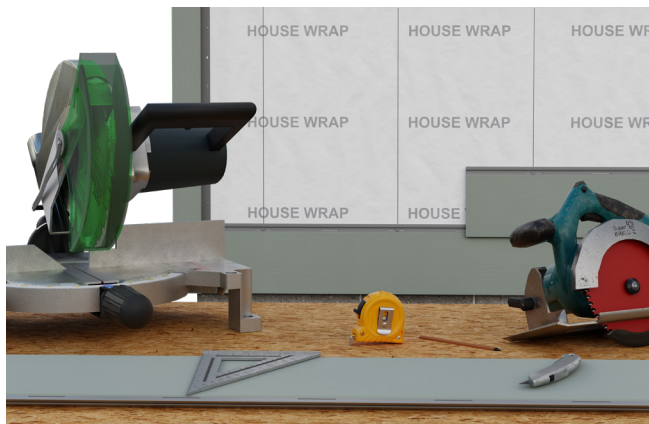

Figure 5
- To accommodate lateral expansion and contraction, ALWAYS leave a ¼" gap between the end of the siding plank and the inner wall of the pocketed trim (Figure 5).